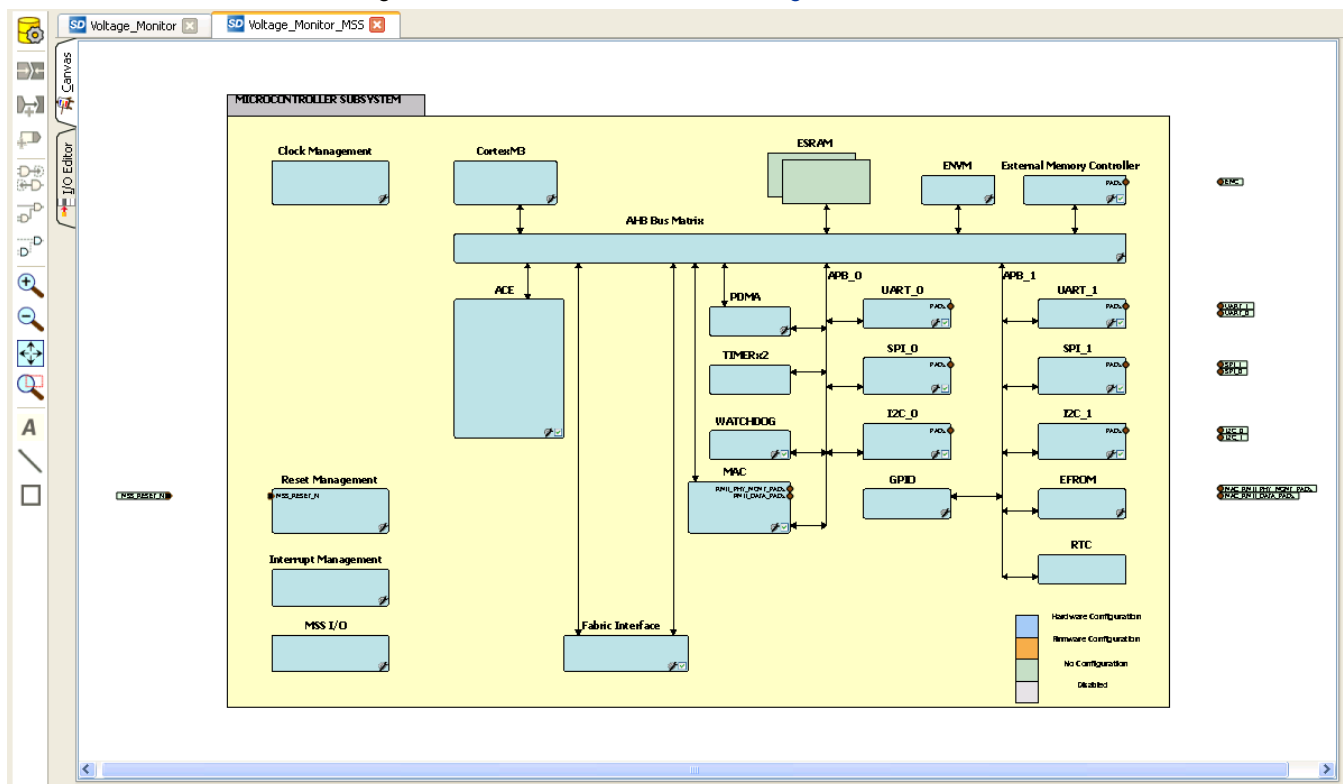

Figure 4 · MSS in the SmartDesign Canvas
- Double-click on **Voltage_Monitor_MSS_0** to configure the MSS. The MSS is displayed in the SmartDesign Canvas in a new tab as shown in Figure 4 .